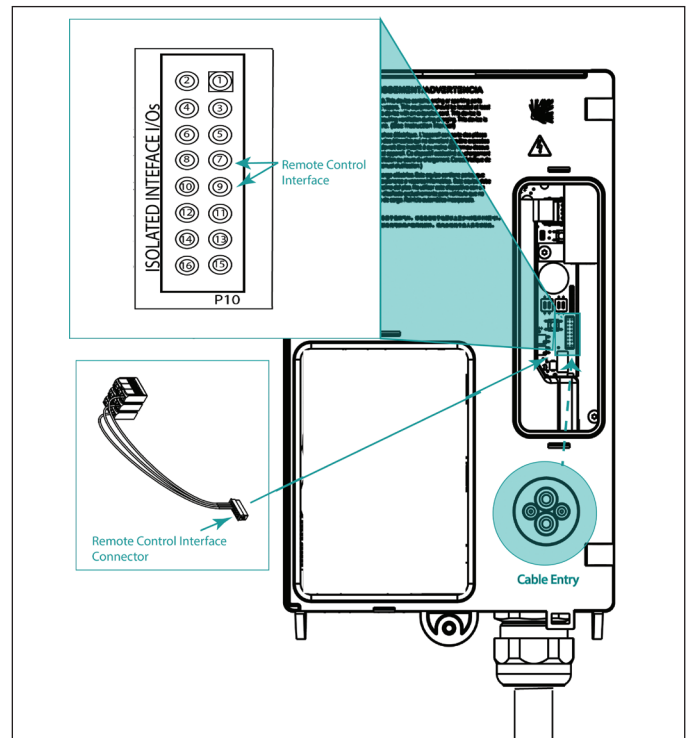

Figure 12. ModBus TCP Ethernet connection
1. Expose the area holding the SIM card hardware by unlatching the cover. The SIM card sits next to the Ethernet connection (see Figure 12 Sim card installation).